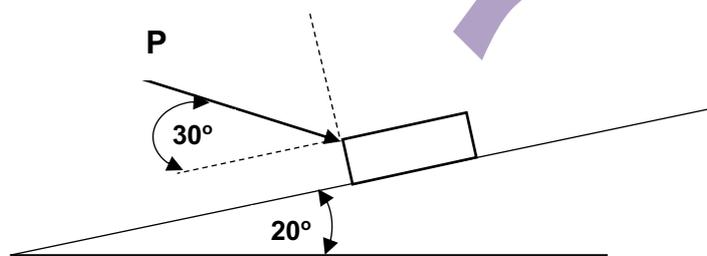

FIGURE 6
- 4.3 The weight of an object in FIGURE 6 below is 2 500 N. The object is placed on an inclined plane that forms an angle of 20° to the horizontal. The coefficient of friction is 0,4 for the surface.